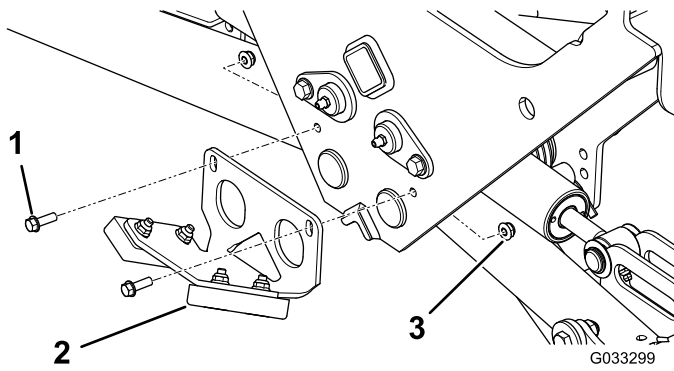

Figure 21
2. Install the rear bumper assembly as shown in Figure 21.